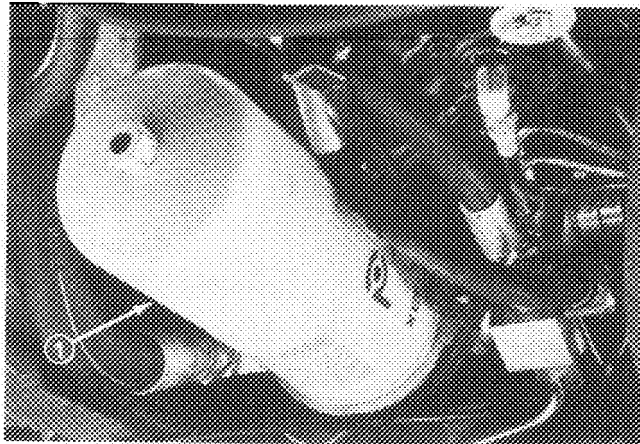

Figure 47
1. Place drain pan under filter and remove filter (Fig. 47).
The test ports (Fig. 47) are used for testing the hydraulic circuits. Contact your local TORO distributor for assistance on use of these components.